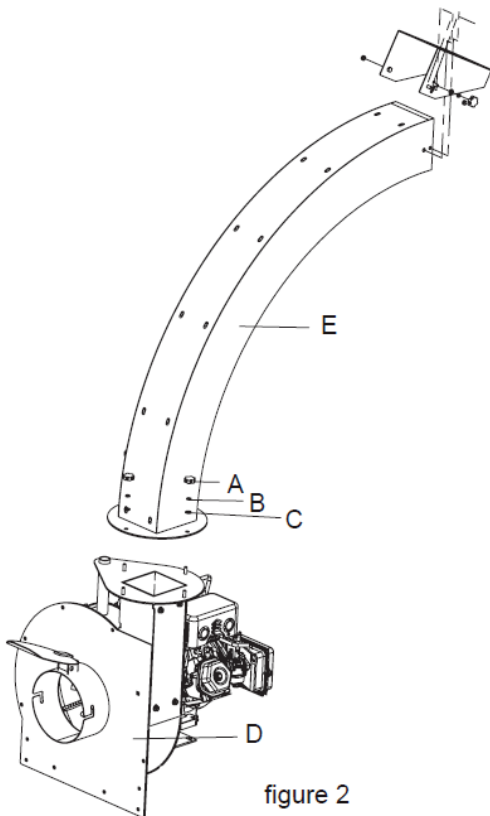

figure 2
Install the discharge chute (E) to the housing by attaching Knob (A) through the spring washer (B) and Flat Washer (C). **See figure 2.** The chute's open direction can be adjusted during installation depending on the operation's needs.